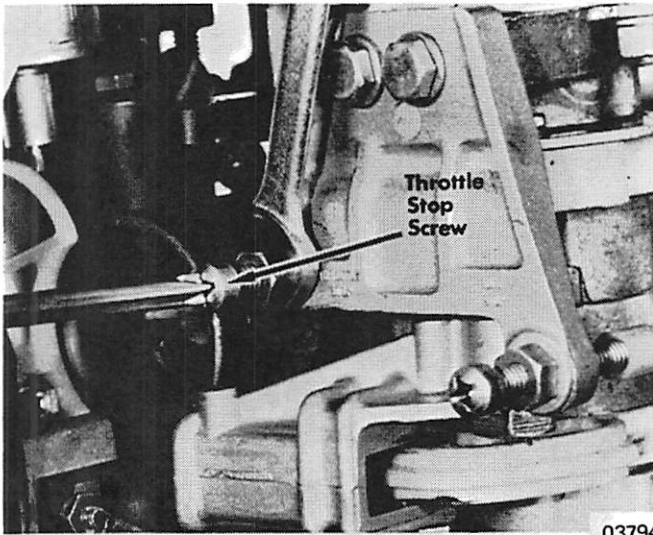

Figure 6. Throttle Stop Screw
- Advance the vertical lever to wide open throttle and adjust the throttle stop screw until it touches the throttle stop. (Figure 6)